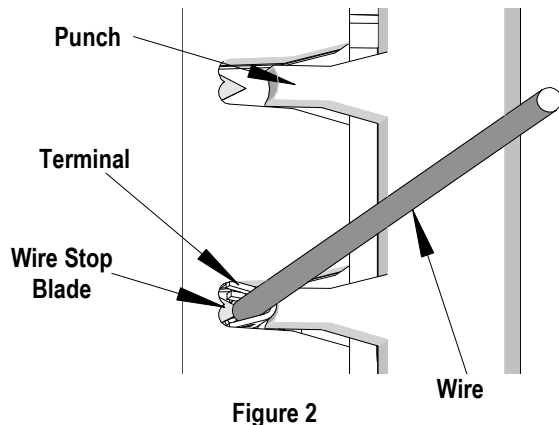
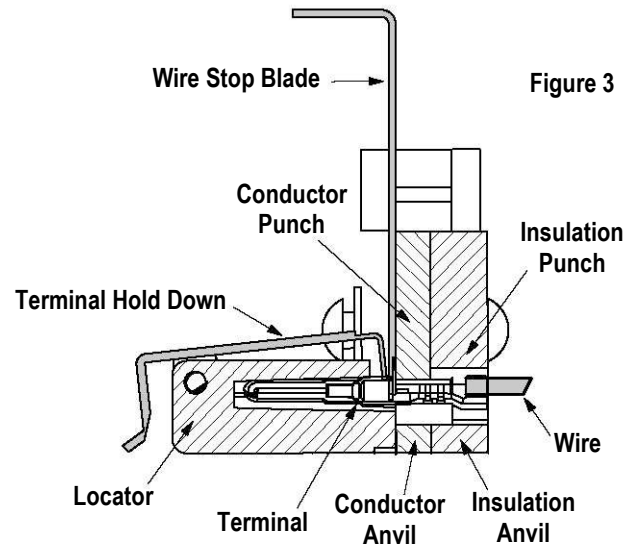

Figure 2
Figure 3
5. Slide the pre-stripped wire into the terminal; make sure to aim the wire brush toward the tip point on the wire stop blade. See Figure 2. Align the wire so that it is parallel and sitting into the terminal. Maintain a light and constant pressure on the wire that is seated in the terminal at all times. (Do not let go of the wire.) Be sure to hold the wire and terminal in place until the terminal is fully crimped. See Figure 3.